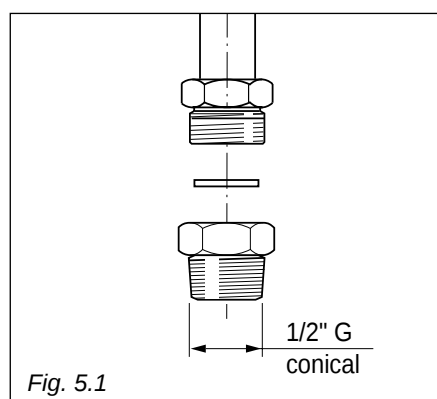

Fig. 5.1
Before connecting the appliance to the gas main, mount conical elbow (supplied with appliance) onto the gas inlet connector, upon which the gasket has been placed (fig. 5.1).
The gas inlet connector is threaded 1/2" G (fig. 5.1).
- ✓ Gasket (Fig. 5.1) guarantee the seal of the gas connection. Replace them whenever they are even slightly deformed or imperfect.